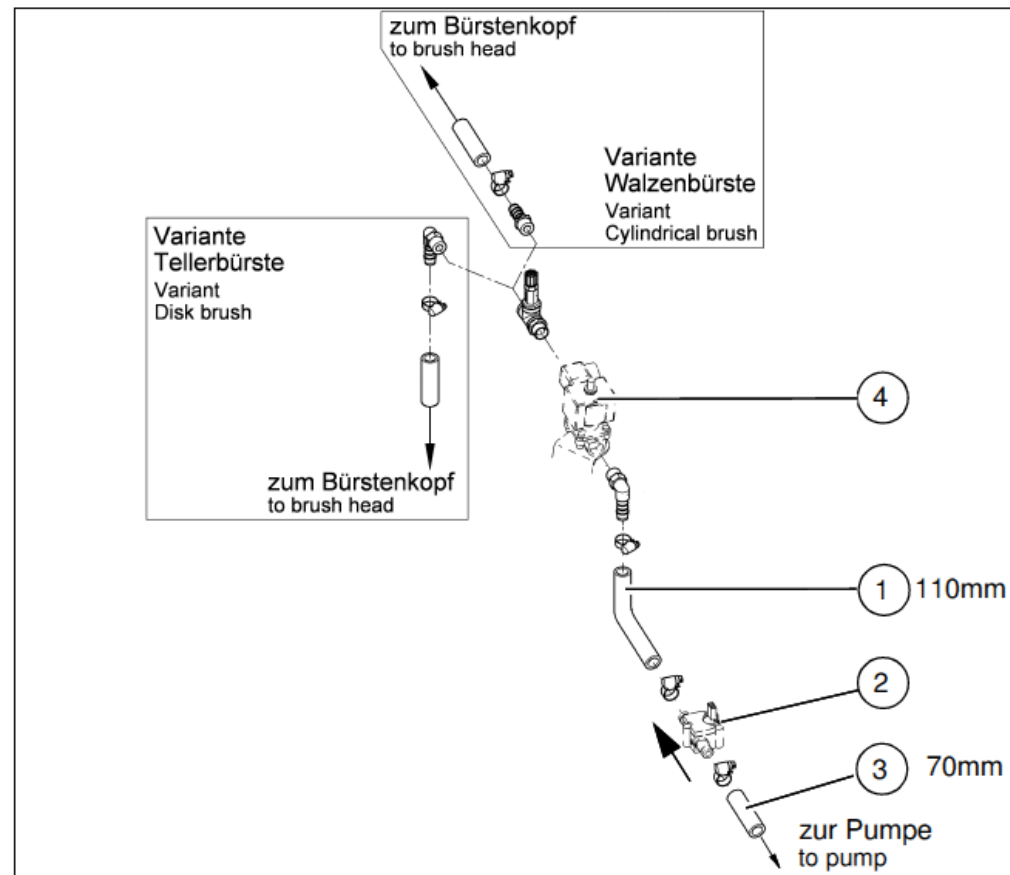

Fig. 3
2. Install the 110 mm water hose (Fig. 3/1) between the flow meter (Fig. 3/2) and relief valve (Fig. 3/4) using hose clamps.
3. Install the 70 mm water hose (Fig. 3/3) between the flow meter (Fig. 3/2) and water pump using hose clamps.